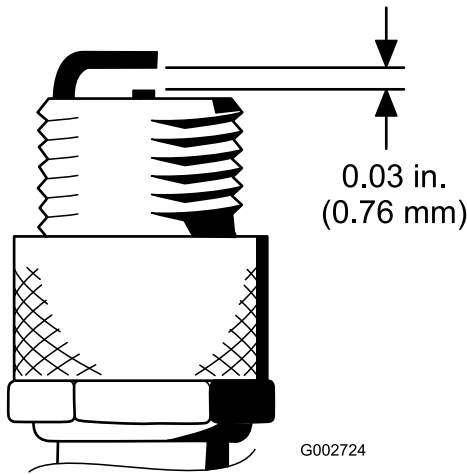

Figure 28
- Set the air gap between the center and side of the electrodes at 0.030 in. (0.76 mm) (Figure 28). Install the correctly gapped spark plug with gasket seal, and tighten the plug to 200 in-lb (23 N·m). If a torque wrench is not used, tighten the plug firmly.